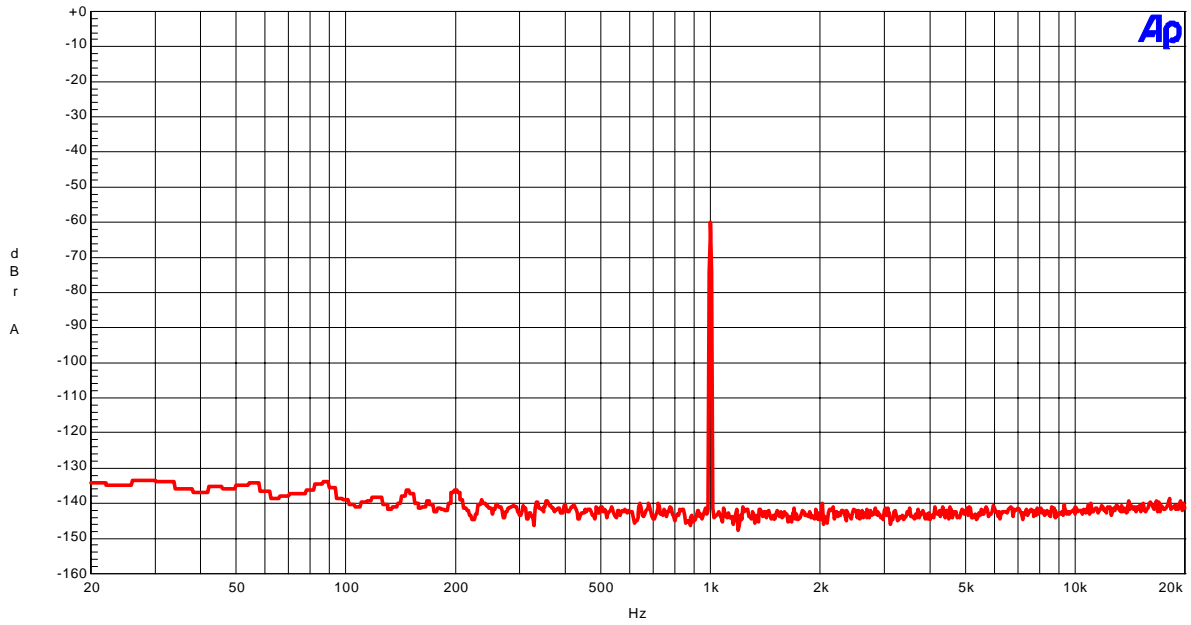

Figure 12. FFT (fs=44.1kHz; 1kHz, -60dBFS input)
- Figure 12. FFT (1kHz, -60dBFS input)